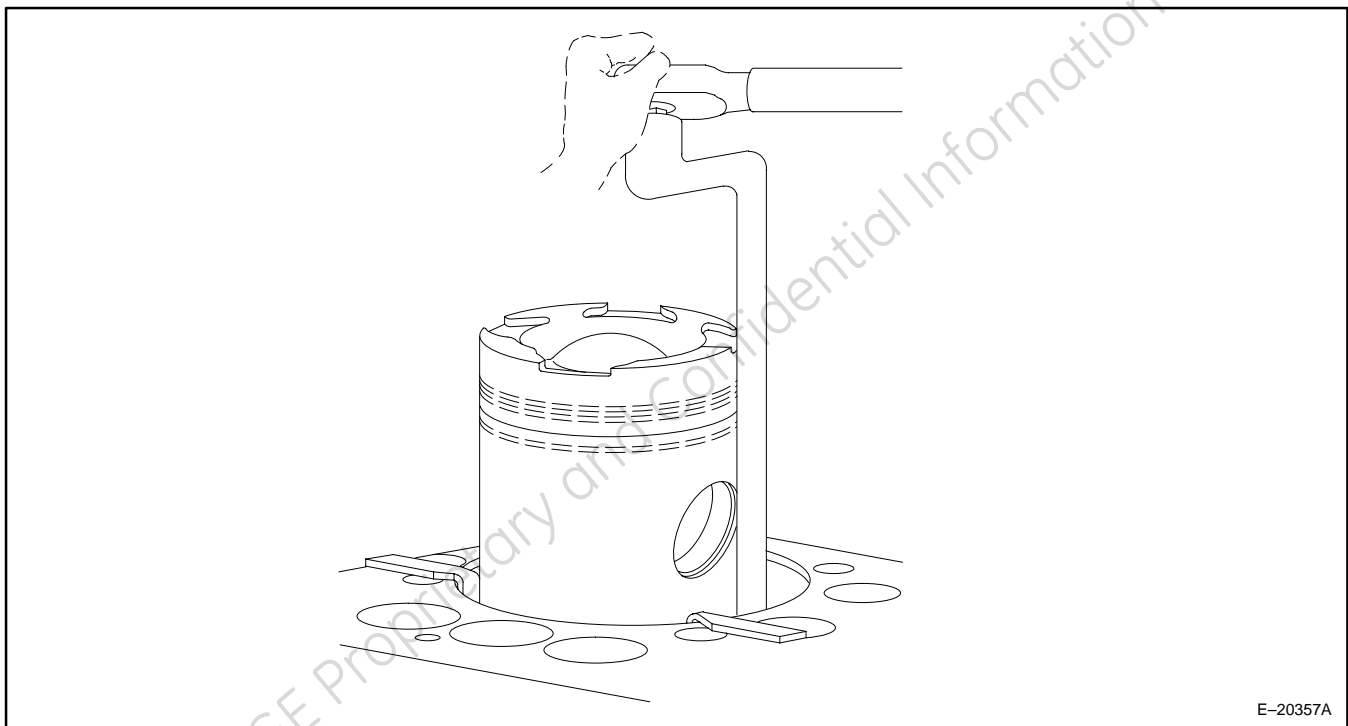

Figure 20. Loosening Piston Pin Bolts (Typical).
2. Using a piston pin bolt wrench (Figure 20 and *SPECIAL TOOLS*) and piston pin bolt socket (refer to *Section 20., SPECIAL TOOLS*) with a 0.75 in. drive ratchet, remove both piston pin bolts and spacers.